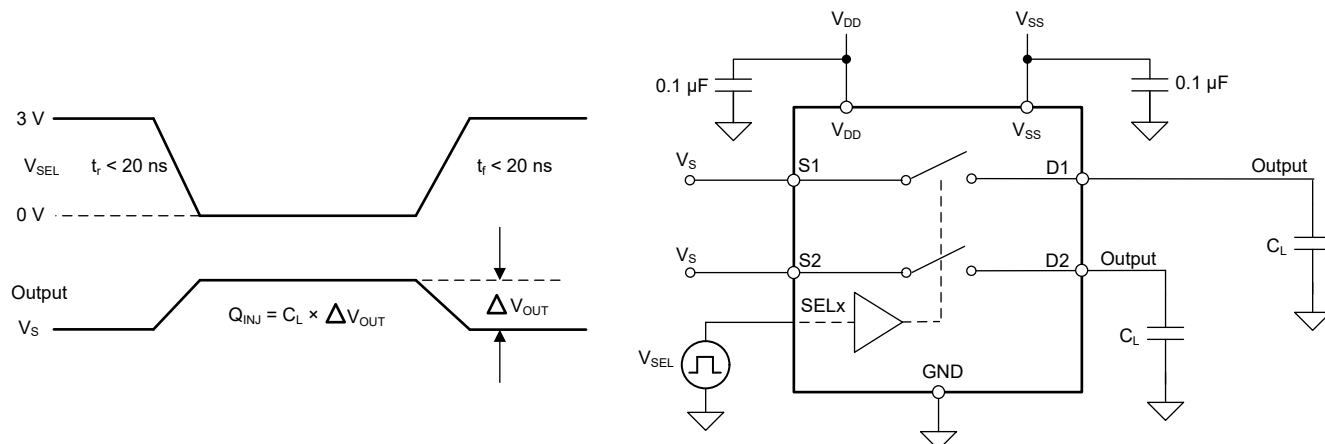

図 6-7. Charge-Injection Measurement Setup
The TMUX622x has a transmission-gate topology. Any mismatch in capacitance between the NMOS and PMOS transistors results in a charge injected into the drain or source during the falling or rising edge of the gate signal. The amount of charge injected into the source or drain of the device is known as charge injection, and is denoted by the symbol Q_C . 図 6-7 shows the setup used to measure charge injection from source (Sx) to drain (D).